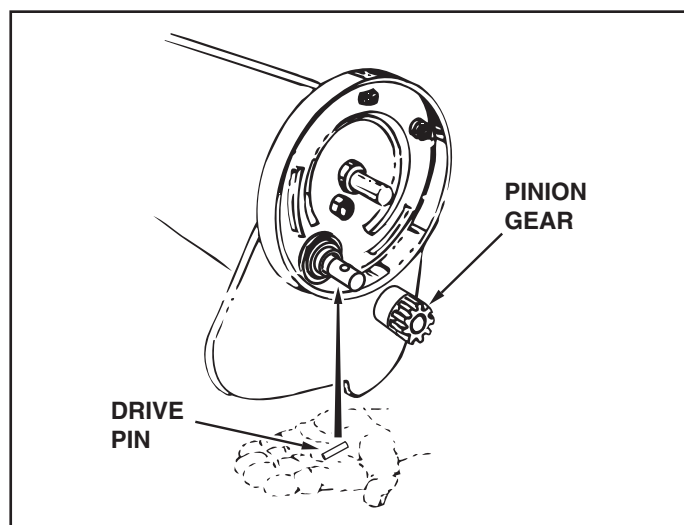

FIGURE 22
3. Remove the gear by sliding it off the brush shaft. (Look for the drive pin, which may fall out of the brush shaft when the ratchet gear is removed.) See figure 22.